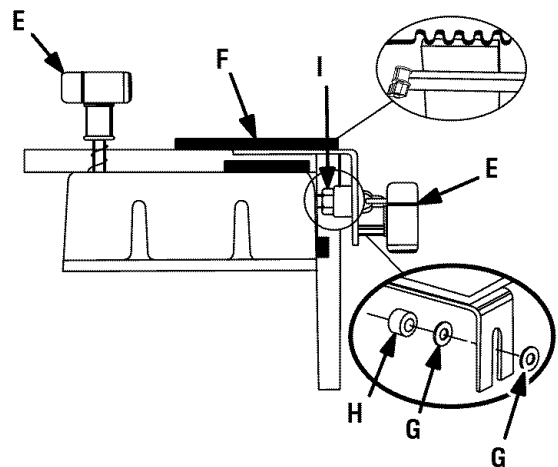
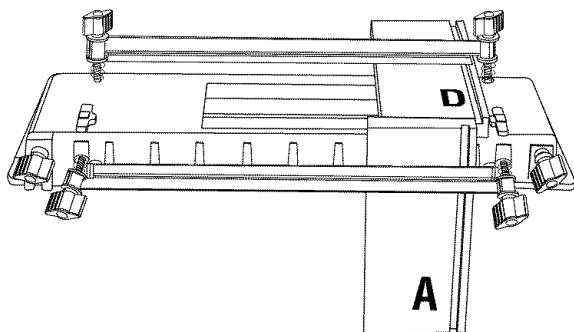

Fig. 14
Fig. 27
- Attach comb-shaped template (F) to the dovetail base with washers (G) and spacers (H) in their desired location. See Figure 14.
- Hold the dovetail template flat on the boards with one hand, and tighten template clamping knobs (E) securely.
By following the instructions just described, you have cut offset dovetail joints for a drawer front and sides. If you desire to dovetail cut the back corners, position boards (A and D) and (C and D) in the dovetail fixture as shown in figures 27 and 28, but use the comb position shown in figure 14. Then follow the same procedure described above.